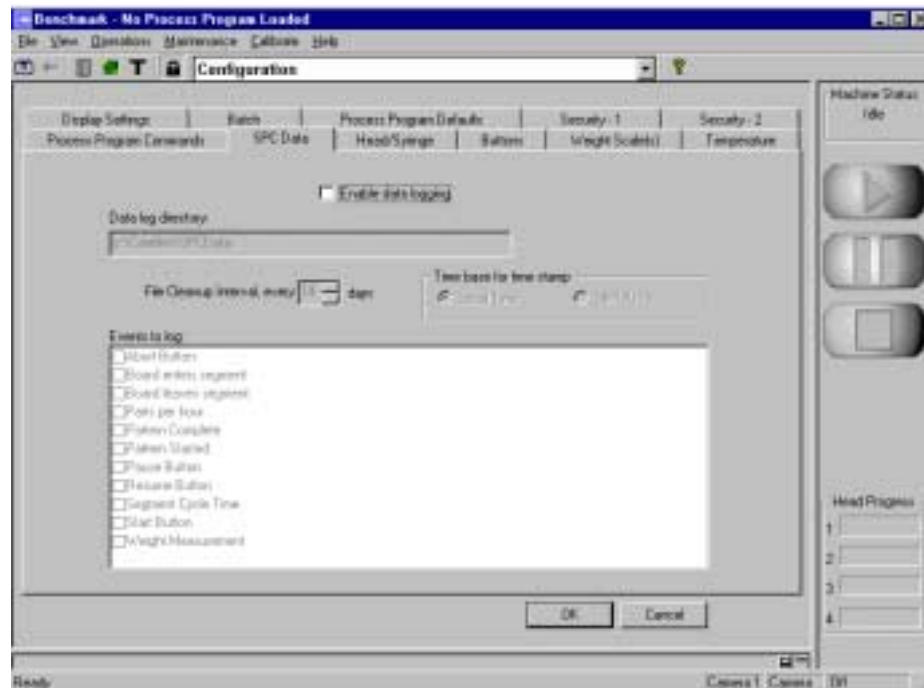

Figure 11-1
1. Select **View > Configuration > SPC Data** tab from the Machine screen. See Figure 11-1.
3. Move the cursor to the right and find the **NT Explorer**. Go to the data log directory that was established in Figure 11-1. This example shows c: \ Cam-files \ SPC Data.